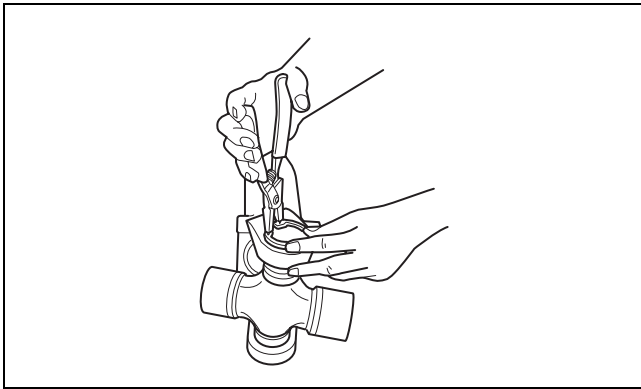

Figure 8.32
5. Use snap ring pliers to install the snap ring into the snap ring groove. Figure 8.32. Fully seat the snap ring.